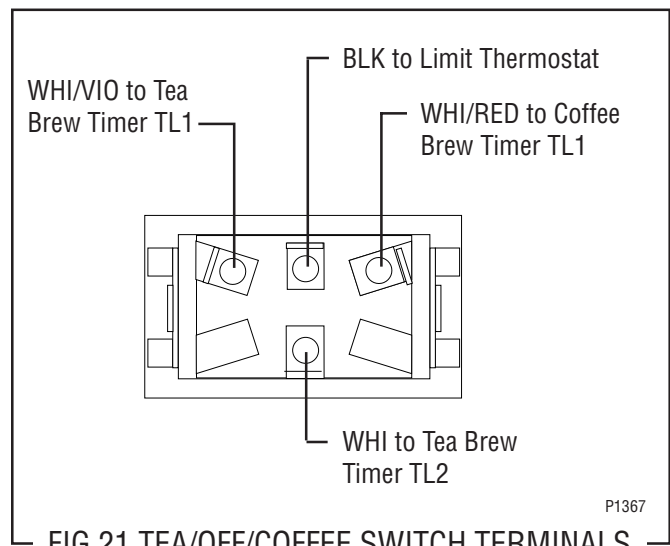

FIG. 21 TEA/OFF/COFFEE SWITCH TERMINALS
4. Refer to FIG. 21 when reconnecting the wires.